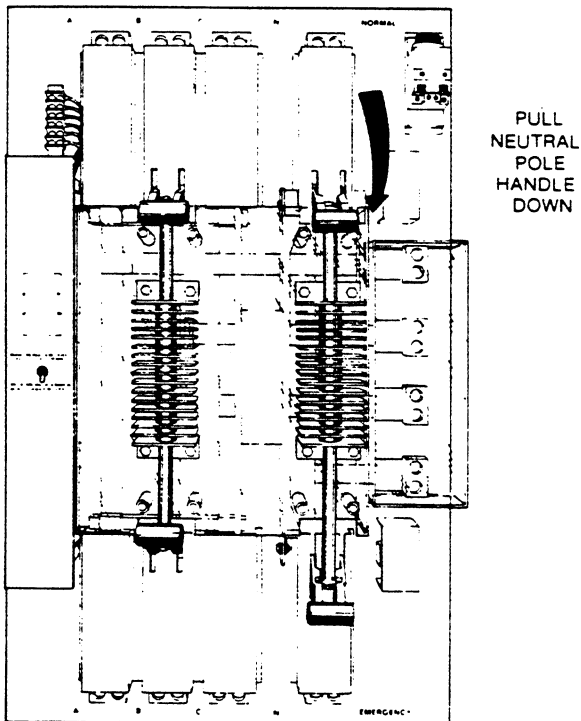

FIGURE 9.
3. Pull the top neutral pole handle all the way down, as shown in Figure 9, connecting the load neutral to the emergency neutral and disconnecting it from the normal power source.